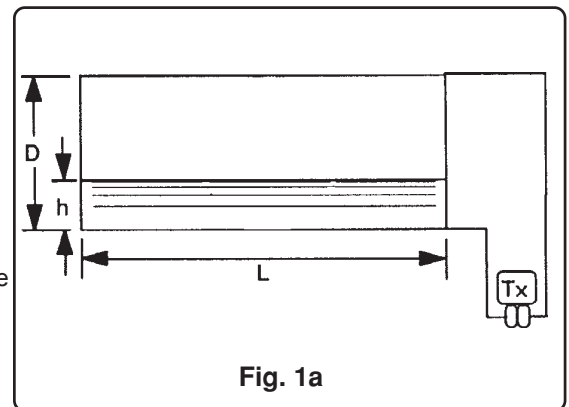

Fig. 1a
a) Cylindrical vessel with flat ends (not often used. Fig. 1a). Transmitter measuring the whole vessel heighth.